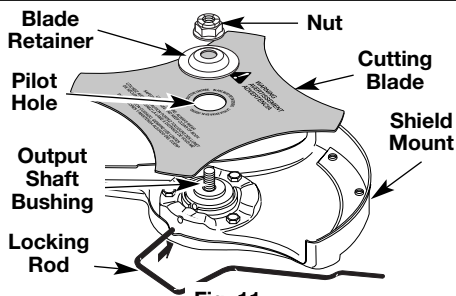

Fig. 11
4. Place the cutting blade on the output shaft bushing (Fig. 11).
5. Make sure that the cutting blade is centered on the pilot step and sitting flat against the output shaft bushing (Fig. 11).